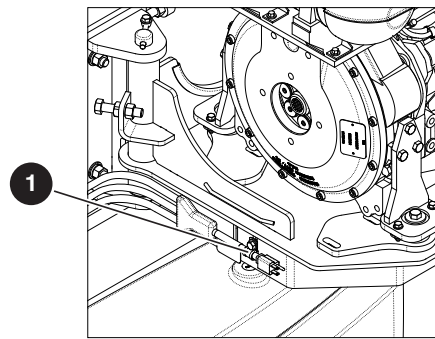

Figure 24 Heater Plug
2. Locate heater plug (item 1 - Figure 24) in engine compartment.